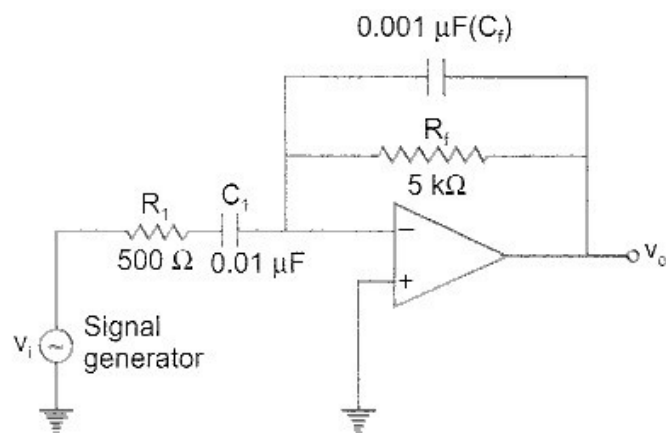

Fig. E. 4.2 A practical differentiator
In Fig. E. 4.2 the resistor  $R_1$  reduces the high frequency noise and capacitor  $C_f$  helps in suppressing oscillations. The circuit will provide reasonably accurate differentiation upto a frequency  $f_a$ , where,
- (i) Connect the differentiator circuit shown in Fig. E. 4.2. Adjust the signal generator to produce a 5 volt peak sine wave at 100 Hz.
The circuit of a practical differentiator shown in Fig. E. 4.2 has been redrawn in Fig. C. 4.2 (a) where various terminals have been numbered for writing the PSPICE program. The program listing is shown in Fig. C. 4.2 (b) and the output waveforms for a sinusoidal input of 3 kHz is shown in Fig. C. 4.2 (c). It may be noted that the output is plotted after several cycles of the input has passed through to achieve steady state results.